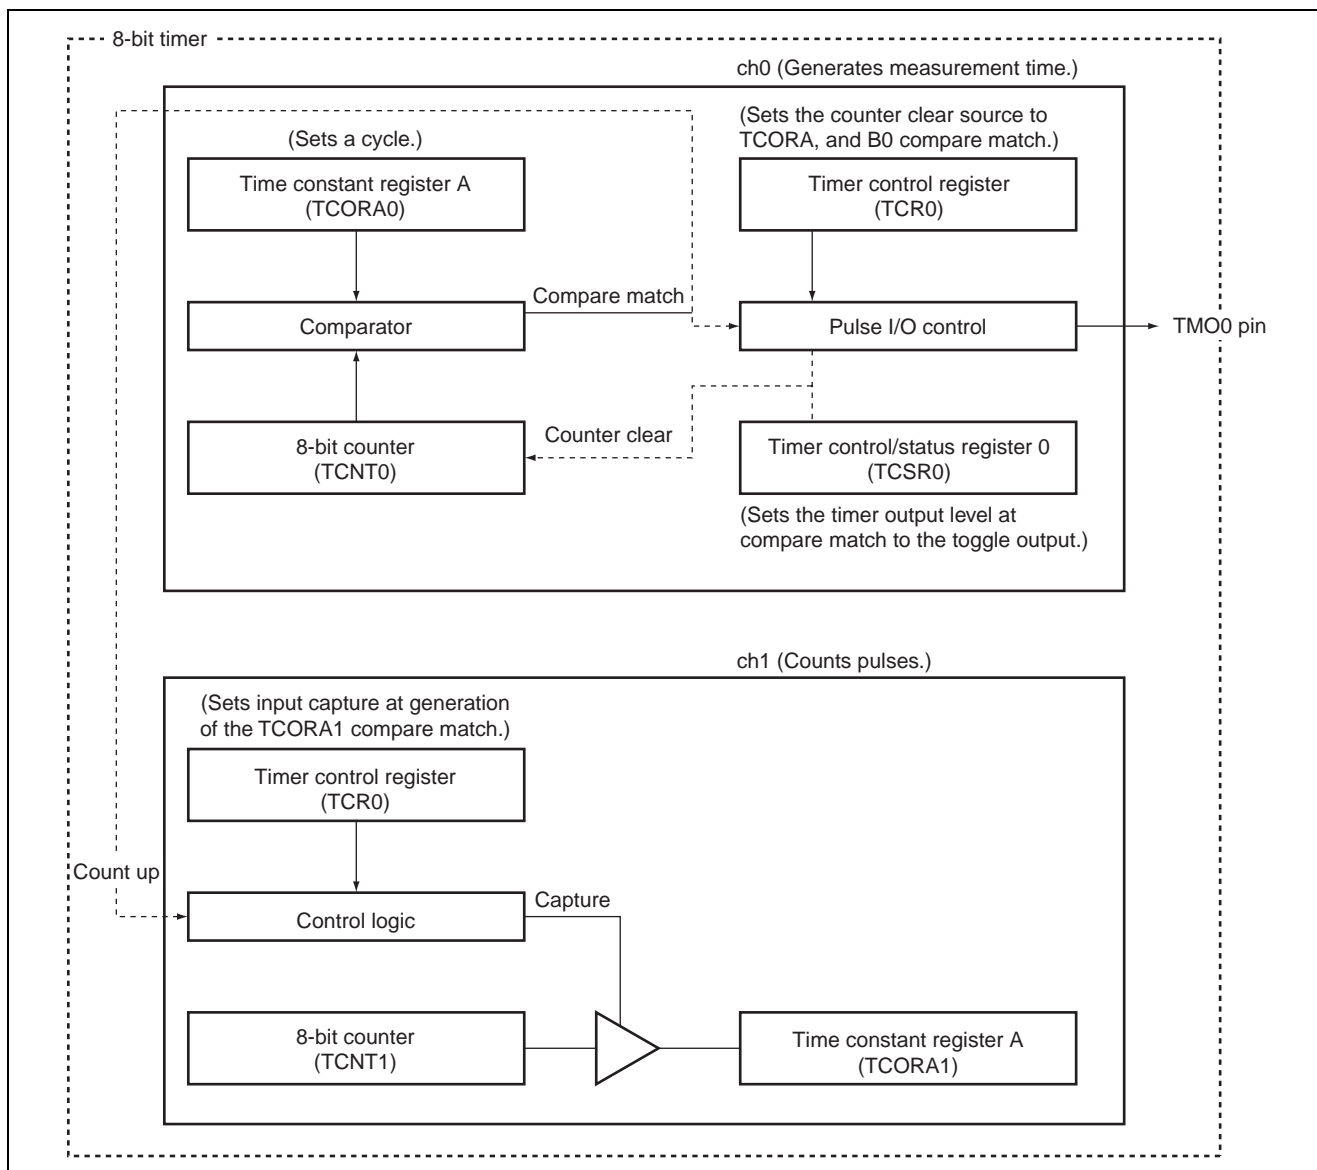

Figure 2 Output Pulse Count Block Diagram
1. The block diagram of the 8-bit timer to be used by this sample task is shown in figure 2. This sample task uses the following functions:
This sample task uses the functions as shown in figure 2 to count pulse rising edges.